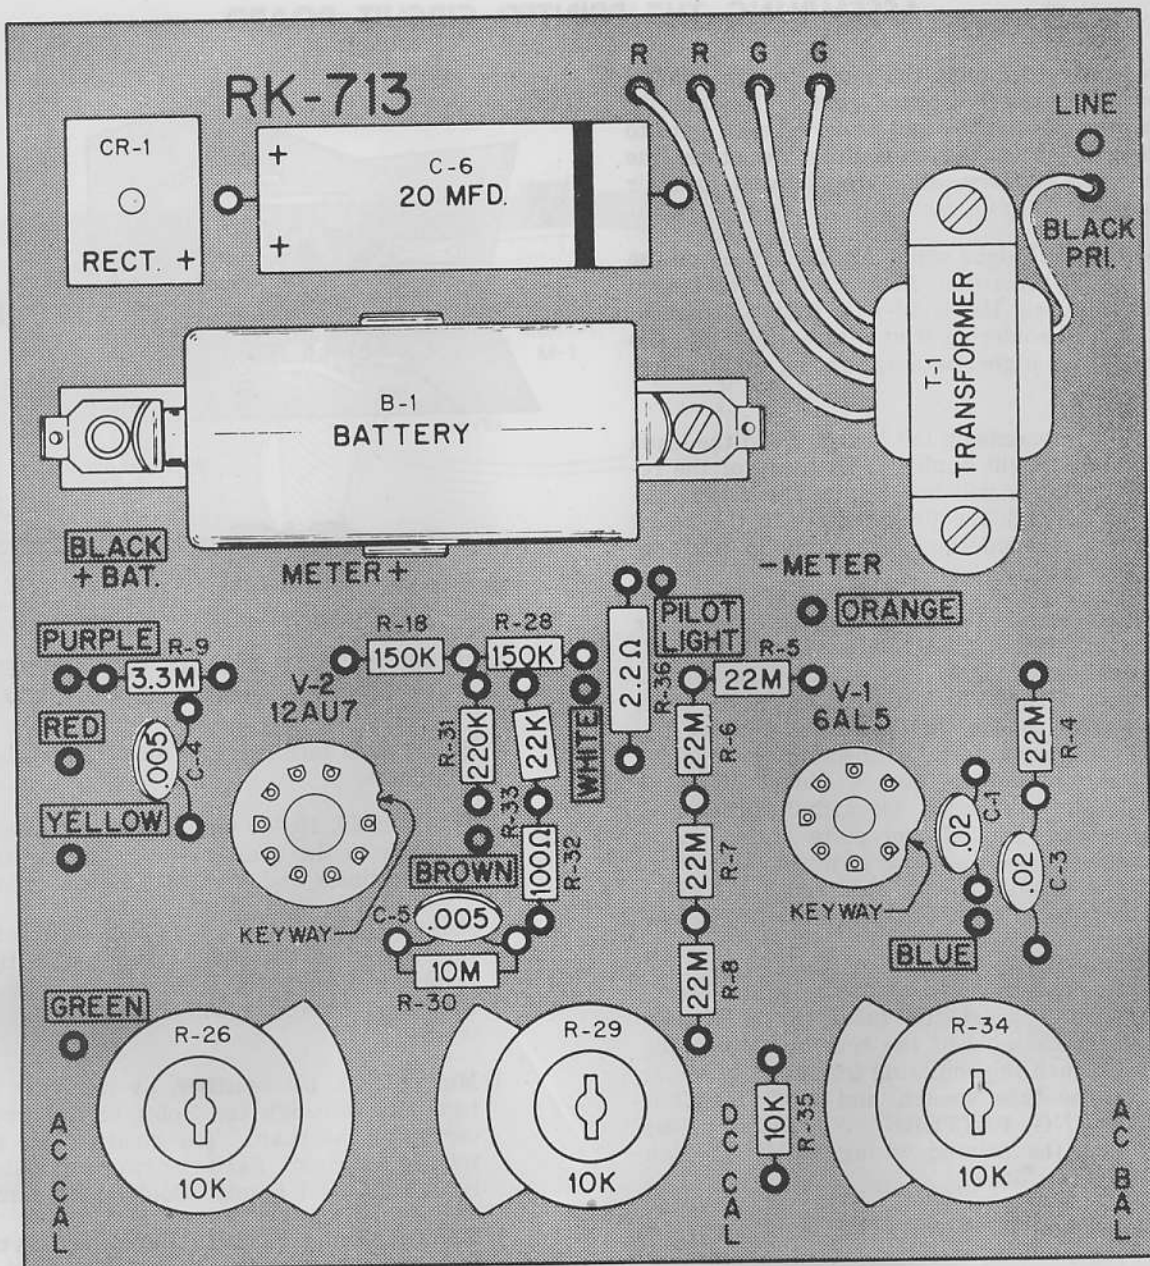

FIGURE 11. MOUNTING THE PARTS ON THE PRINTED CIRCUIT BOARD
SEE FIGURE 11.
SEE FIGURES 11 AND 12.
- () Mount R-9, 3.3 Megohm resistor (orange, orange, green) as shown in Figure 11.